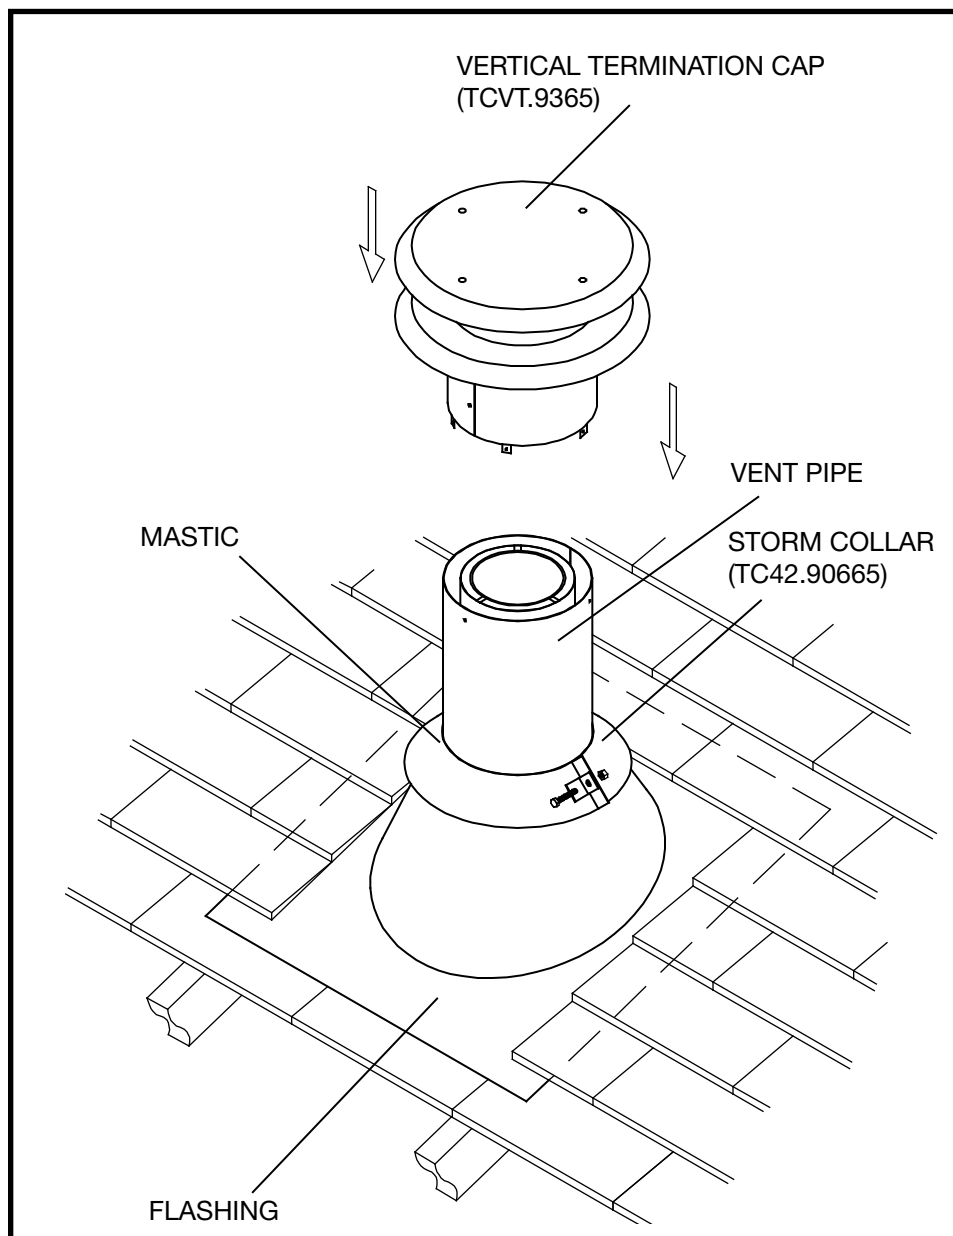

Figure 40: Roof vent terminal.
1. Place the roof flashing over the vent pipe, secure and seal it to the roof using the methods and materials appropriate for the type of roof on the building. Shingle roof example shown (Figure 40).
2. Place the storm collar down over the vent pipe until it is level. Tighten storm collar for a snug fit. Apply a thick horizontal ring of mastic around the pipe at top of the storm collar (Figure 40).
3. Lower the roof vent terminal cap over the vent pipe and secure in place with screws provided (Figure 40). Seal screw heads and joints with caulking to prevent any moisture entering the venting system.